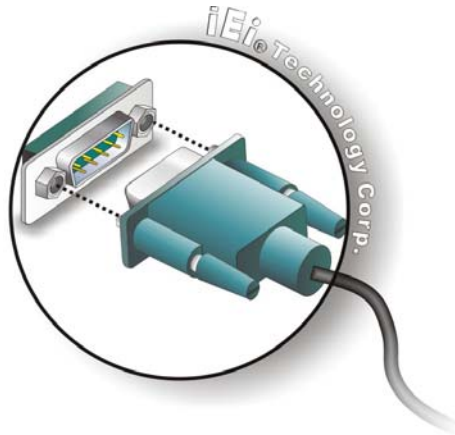

Figure 3-9: Serial Device Connector
Step 1: Insert the serial connector. Insert the DB-9 connector of a serial device into the DB-9 connector on the external peripheral interface. See **Figure 3-9**.